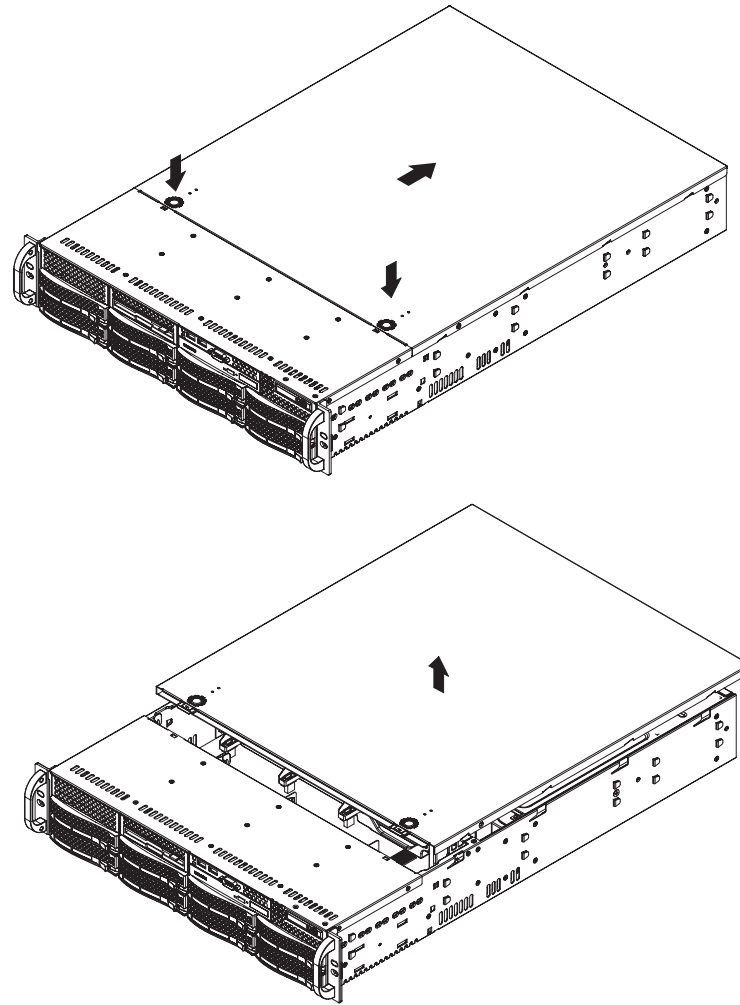

Figure 2-4 Accessing the Inside of the System
2. Depress the two buttons on the top of the chassis to release the top cover as shown in Figure 2-4.